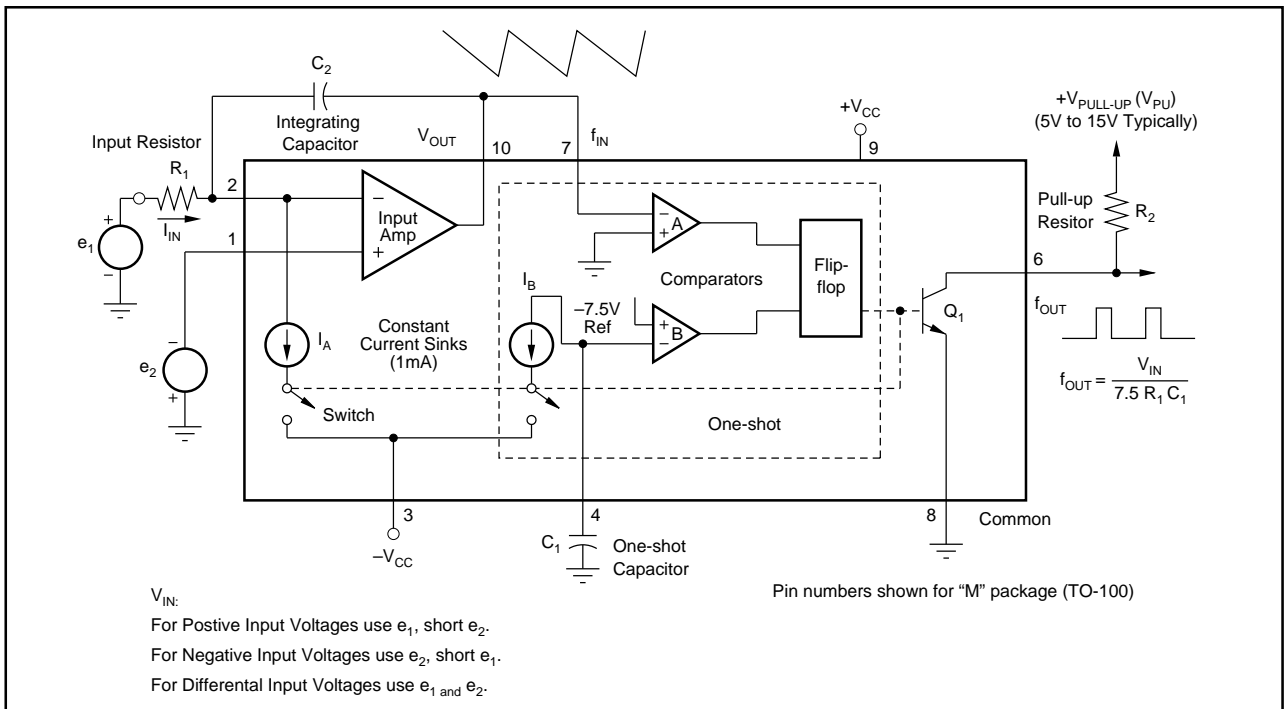
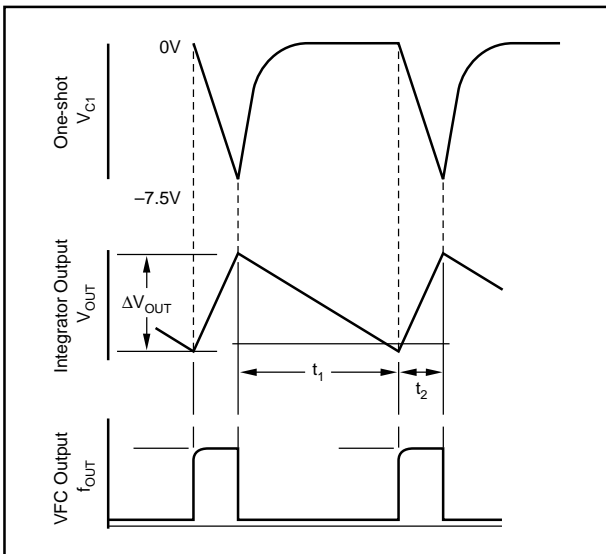

FIGURE 4. Functional Block Diagram of the VFC320.
FIGURE 5. Integrator and VFC Output Timing.
V/F CONVERTER $f_{\text{OUT}} = V_{\text{IN}}/7.5 R_1 C_1$ , Figure 4
The VFC320 monolithic voltage-to-frequency converter provides a digital pulse train output whose repetition rate is directly proportional to the analog input voltage. The circuit shown in Figure 4 is composed of an input amplifier, two comparators and a flip-flop (forming a on-shot), two switched current sinks, and an open collector output transistor stage. Essentially the input amplifier acts as an integrator that produces a two-part ramp. The first part is a function of the input voltage, and the second part is dependent on the input voltage and current sink. When a positive input voltage is applied at  $V_{IN}$ , a current will flow through the input resistor, causing the voltage at  $V_{OUT}$  to ramp down toward zero, according to  $dV/dt = V_{IN}/R_1C_1$ . During this time the constant current sink is disabled by the switch. Note, this period is only dependent on  $V_{IN}$  and the integrating components.
The transfer function for the VFC320 is derived for the circuit shown in Figure 4. Detailed waveforms are shown in Figure 5.
In general, the design sequence consists of: (1) choosing  $f_{MAX}$ , (2) choosing the duty cycle at full scale ( $D_{FS} = 0.25$  typically), (3) determining the input resistor,  $R_1$  (Figure 4), (4) calculating the one-shot capacitor,  $C_1$ , (5) selecting the integrator capacitor  $C_2$ , and (6) selecting the output pull-up resistor,  $R_2$ .